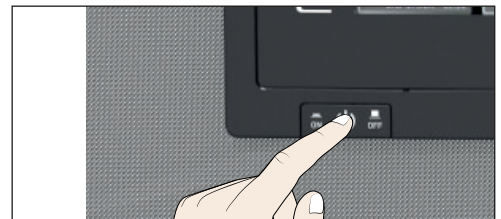

Fig. 27 Switching off the appliance
5. Switch off the appliance with the main switch (Fig. 27).